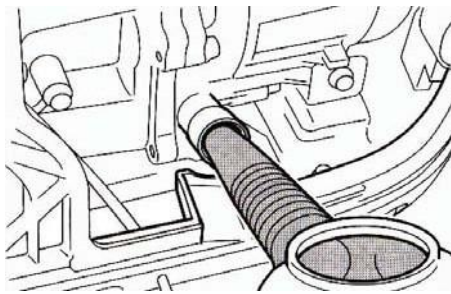
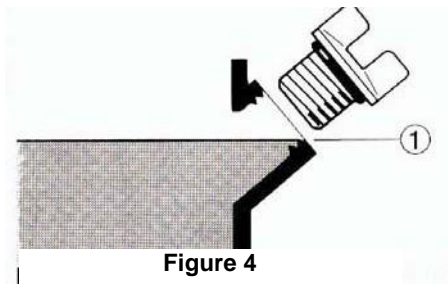

Figure 3
Figure 4
Using the funnel (provided) fill with 0.4L of SAE 10W-30 or 10W-40 (provided) (see figure 3). See figure 4 for proper oil level ①.